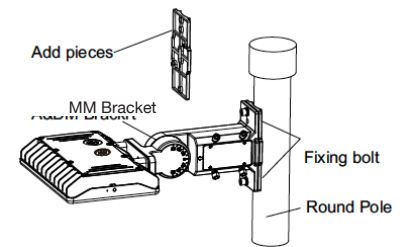

Fig. 31
**NOTE:** THE ROUND POLE INSTALLATION REQUIRES SUPPLIED ADAPTER PLATE (Fig. 31).